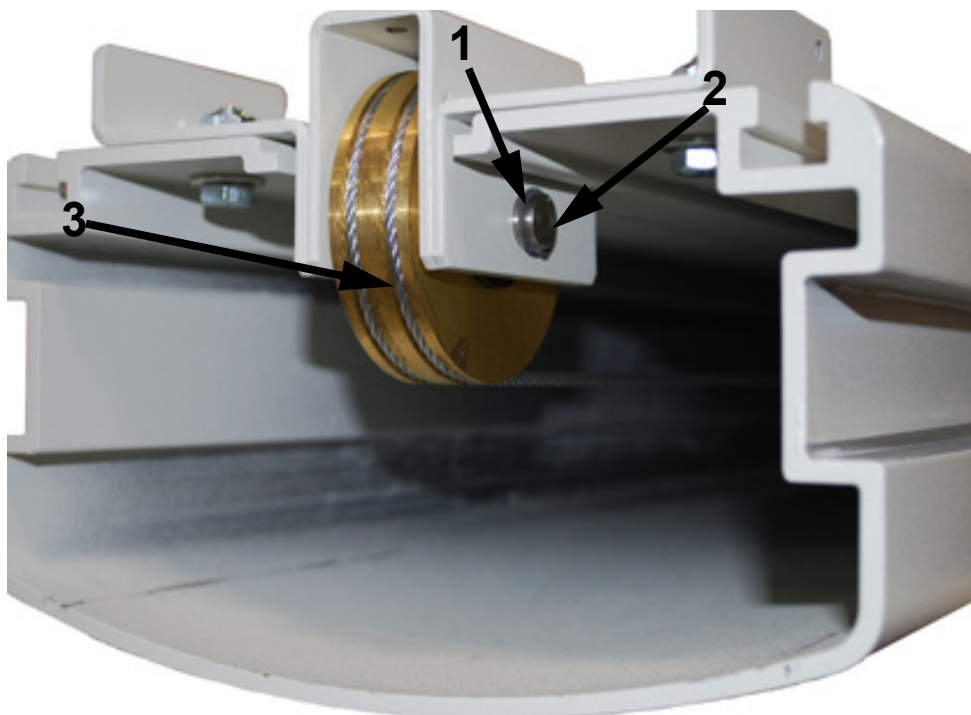

Figure 6-4. Shaft & Pulley
- 6 Remove the retaining ring (1 in Figure 6-4), the shaft (2), and the pulley (3).